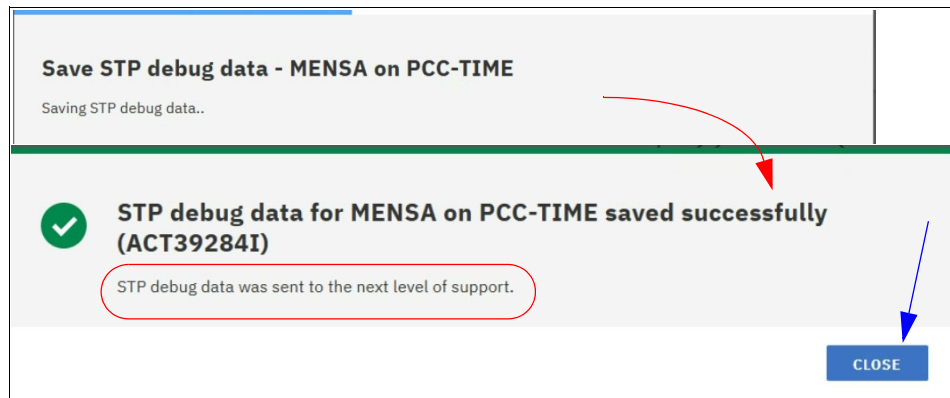

Figure 5-16 STP debug data sent to IBM support
- Click **CONTINUE** and check the progress and finalizing of the task, as shown in Figure 5-16 on page 120.